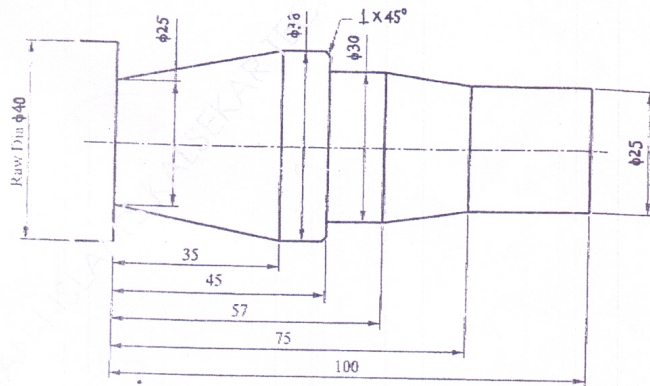

Figure 1
- (1) Question No.1 is compulsory
- (2) Attempt any four questions out of remaining six questions
- (3) Figures to right indicate full marks
- (4) Assume suitable data if necessary.
- (5) Notations carry usual meaning.
- Q.1 (A) Write short note on concurrent engineering in product design. 06
- (B) Write short note on computer aided process planning (CAPP). 07
- (C) Plot the Bezier curve having endpoints  $P_0(1, 3)$  and  $P_3(7, 2)$ . The other control points are  $P_1(5, 6)$  and  $P_2(6, 0)$ . Plot for values for  $u=0, 0.1, 0.2, \dots, 1$ , if the characteristic polygon is drawn in the sequence  $P_0-P_1-P_2-P_3$ . 07
- Q.2 (A) Write a part program using G and M codes for finishing a forged component as shown in Figure 1. Assume the speed and feed on the turning center as 500 rpm and 0.3 mm/rev respectively. Assume suitable data if necessary. 10